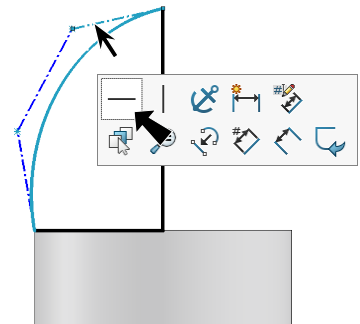

Fig. 9
Step 8. Click **top control polygon segment** and click **Make Horizontal**  on the context toolbar, **Fig. 9**.